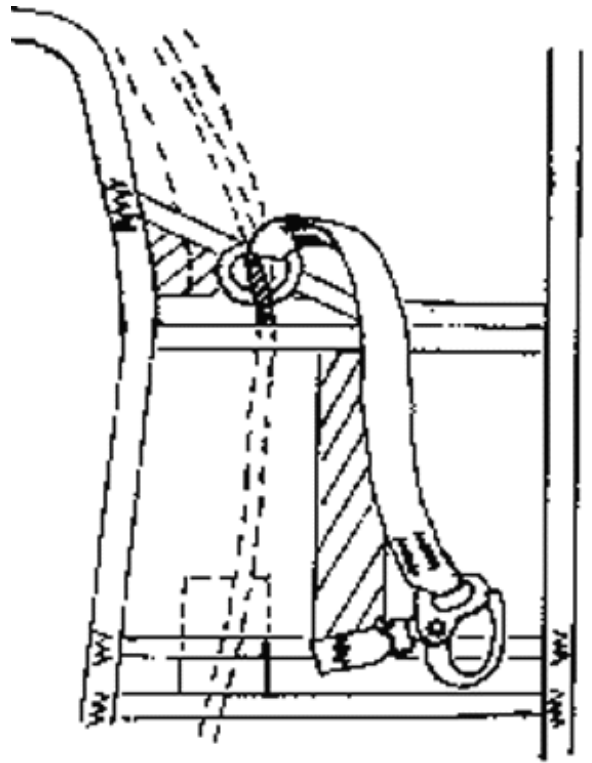

Figure 8-1
Step 1 The ring end of the lanyard is installed first. Mate the Velcro on the lanyard with the ring to the Velcro pathway on the left shoulder area. Route the ripcord cable/pin assembly through the lower housing and then through the ring on the lanyard (*Figure 8-1*). Now route the ripcord cable/pin assembly through the upper housing and out to the back pad area under the pin protector flap.